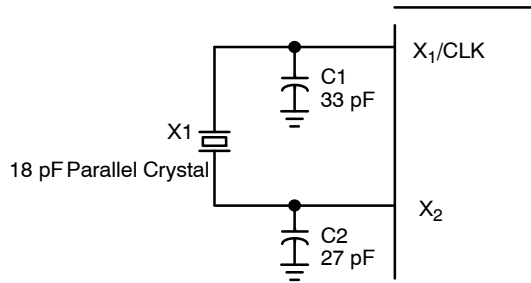

Figure 7. Crystal Input Interface
7. The crystal should be fundamental mode, parallel resonant. Do not use third overtone. For exact tuning when using a crystal, capacitors should be connected from pins X1 to ground and X2 to ground. The value of these capacitors is given by the following equation, where CL is the specified crystal load capacitance: Crystal caps (pF) = $(CL - 5) \times 2$. So, for a crystal with 16 pF load capacitance, use two 22 pF caps, including board trace capacitance (see Figure 7).